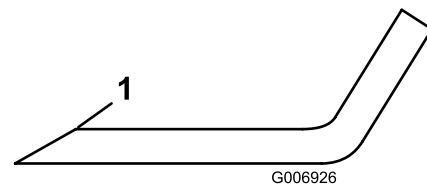

Figure 63
5. Inspect the cutting edges of all blades. Sharpen the cutting edges if they are dull or nicked. Sharpen only the top of the cutting edge and maintain the original cutting angle to make sure of sharpness (Figure 63).